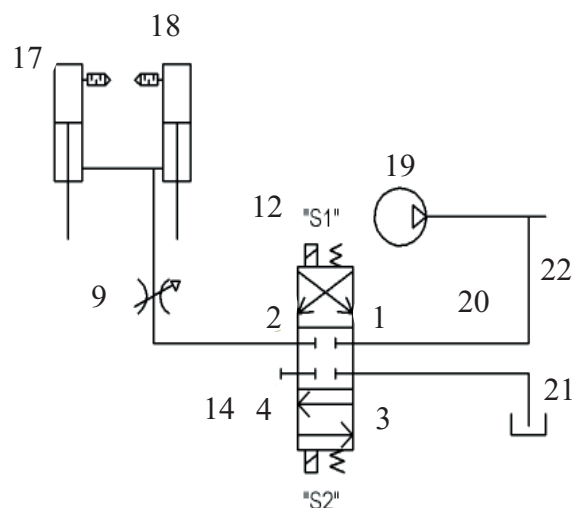

Figure 2.5 - Hydraulic Schematic
2. *Figure 2.5* illustrates the ideal setup for the hydraulic routing. The hydraulic cylinders (#17) are fed by a pressure line with a needle valve (#9) from the main switch block (#12) connected to port 2. The one side of the block is tee'd into a fixed displacement pump (#19) circuit (#22) connecting to the block at port 1. Port 3 on the block is tee'd into the tank line (#21). Port 4 is plugged (#14).